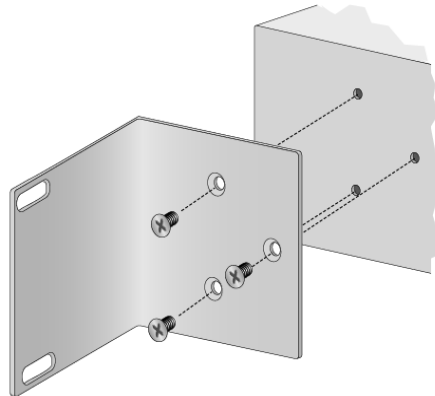

Figure 9 Attaching Rackmounting Brackets
2. Attach a bracket to one side of the switch using the bracketmounting screws that came with the switch. See Figure 9.